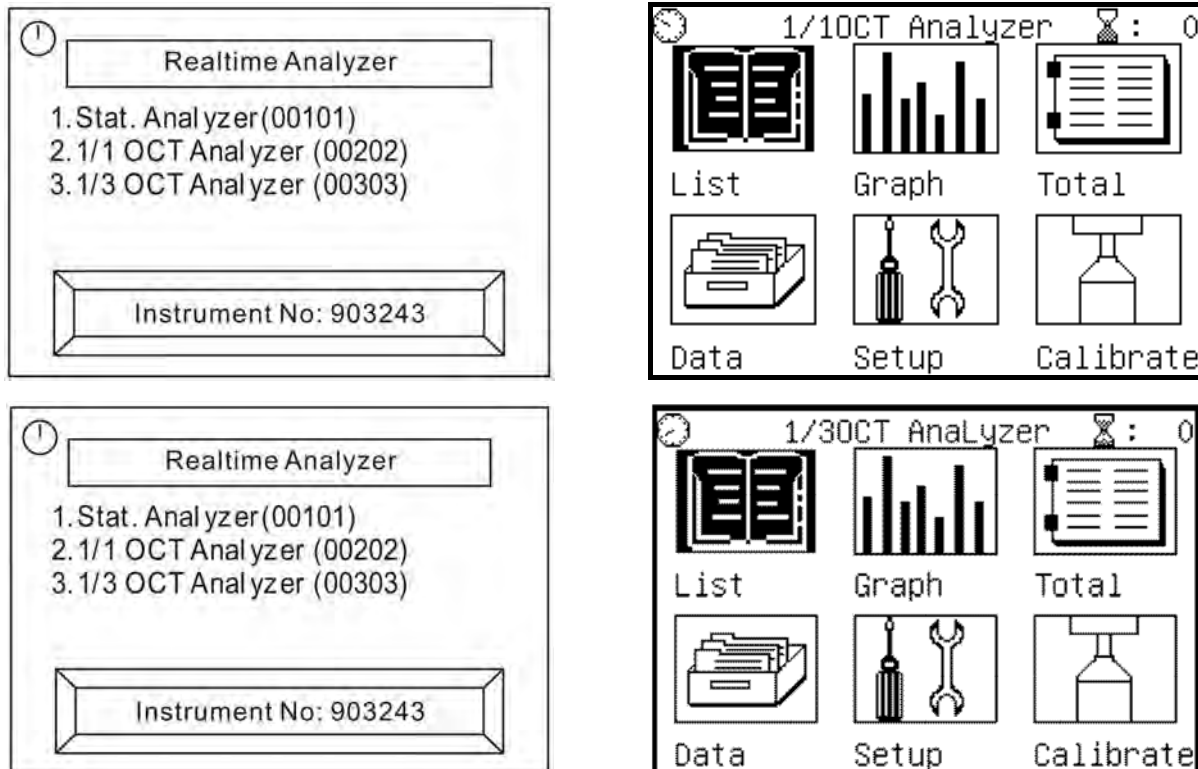

Fig. 22: Initial screens for analysis in 1/1 and 1/3 octave band
1. Turn on the instrument by pressing the “” key. The screen for the selection of the analysis type is shown on the display for approximately 5s (see Fig. 22)
1. Select the “**Total**” item in the main menu (see Fig. 22) and confirm with . The instrument displays the following screen, relevant to the “**Linst**” item: